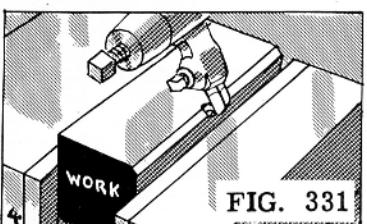

FIG. 331
4. Setting the edge of the tool to suit the angle of the cut is another method of producing an angular surface. The edge of the tool may be set approximately, or a protractor or a gage can be used to set the cutting edge accurately. When these cuts are comparatively narrow they are often called chamfers (Figs. 331 and 332).